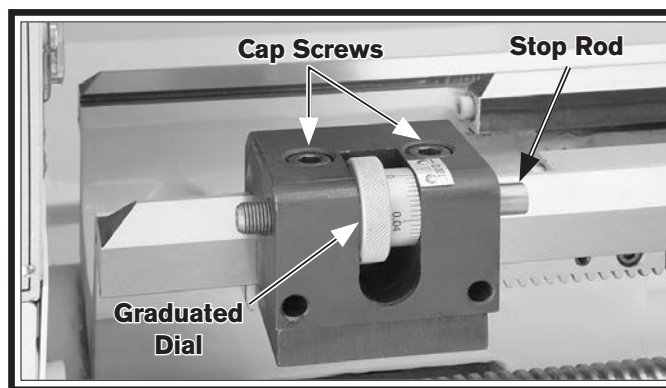

Figure 70. Micrometer stop.
2. Loosen the cap screws shown in **Figure 70**, then use the carriage handwheel to position the carriage and cutting tool at the desired stopping point.